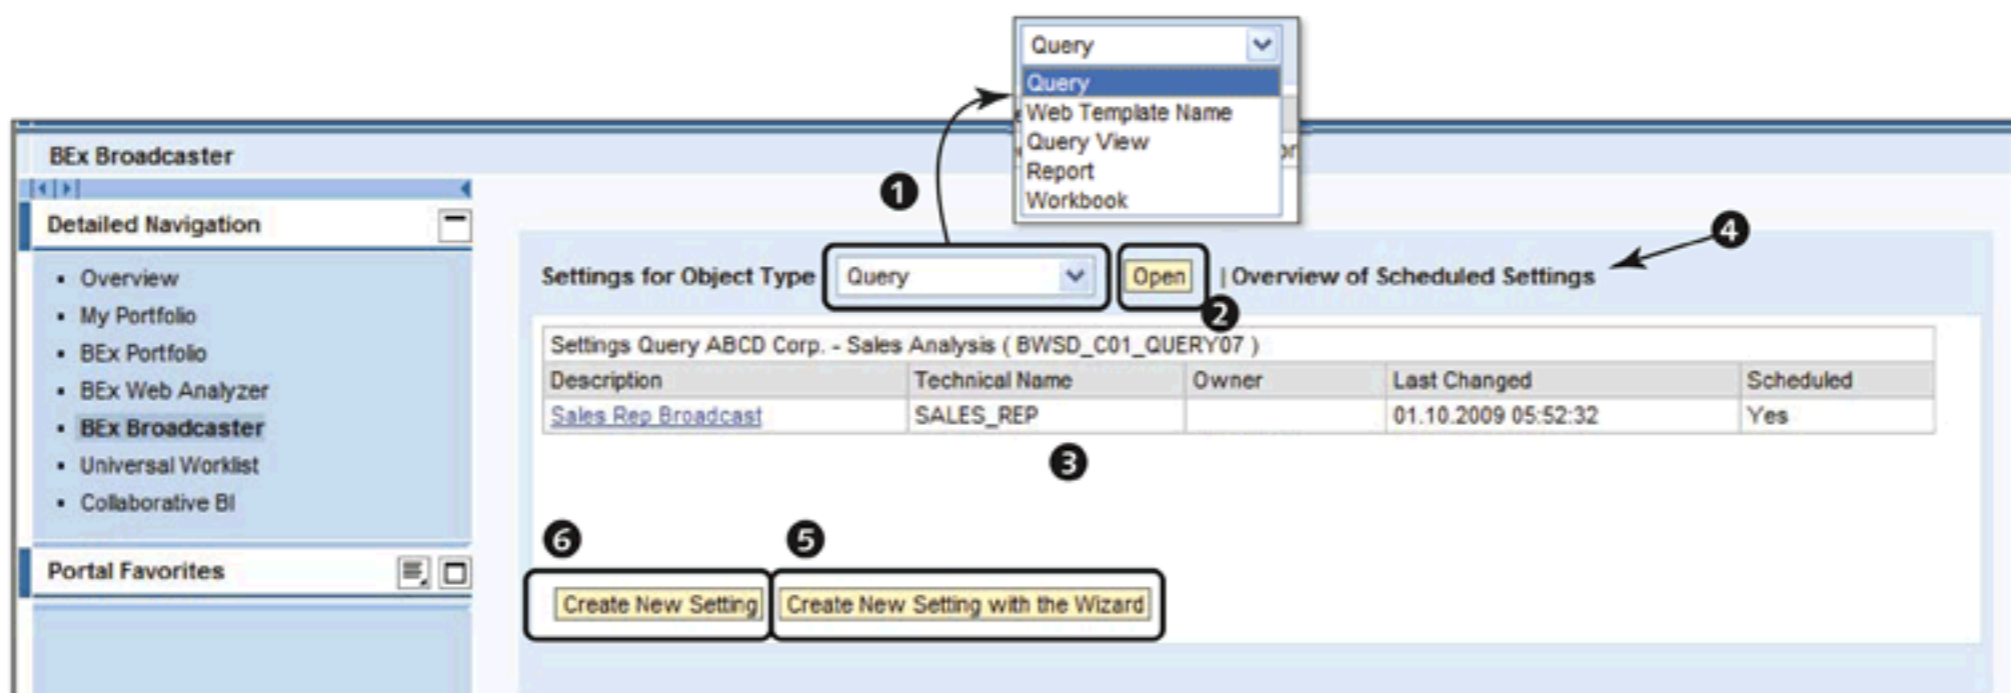

Figure 10.67 BEx Broadcaster Settings
To maintain the broadcasting settings on any BEx object, first select the object type from the dropdown (❶ of Figure 10.67), and then click on the OPEN button (❷) to select the specific object. This displays a list of the broadcasting settings that are defined and scheduled on the selected object (❸).
To create a new setting, use the CREATE A NEW SETTING WITH THE WIZARD button (5 of Figure 10.67), which takes you to the same BROADCASTING WIZARD that is accessed from the SEND button of BEx Web Analyzer. CREATE NEW SETTING (6) allows you to create the setting in BEx Broadcaster.